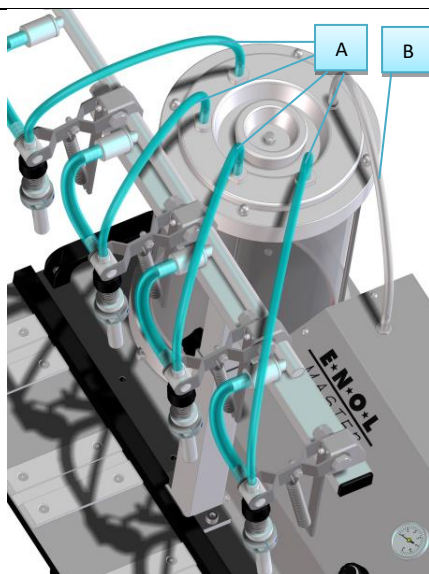

Fig.2
4. Connect transparent hoses "A" to fittings on the cover of bowl and black hose "B" to fitting on bowl cover (fig. 2).